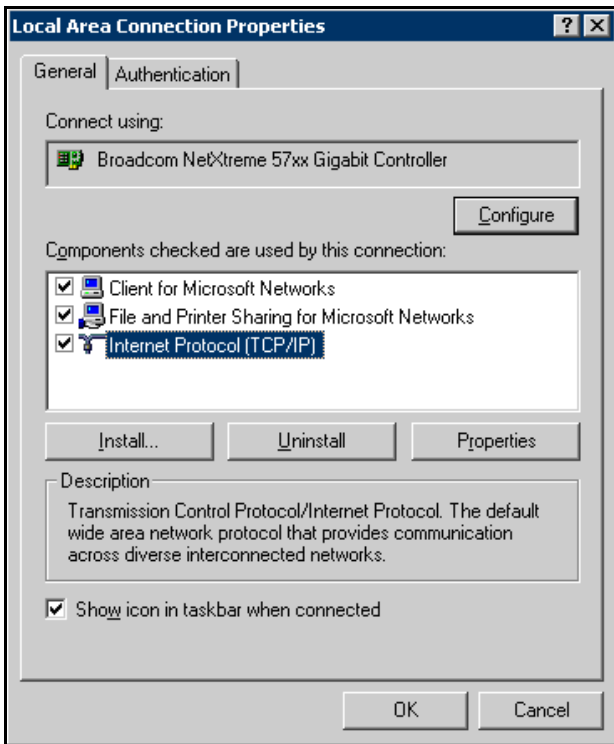

Fig. 5. Properties Page.
2. Right click on the appropriate LAN adapter that will be used for configuring the WebStat W7350A and click **Properties** to open the **Network Adapter Properties** popup as shown in Figure 5. .